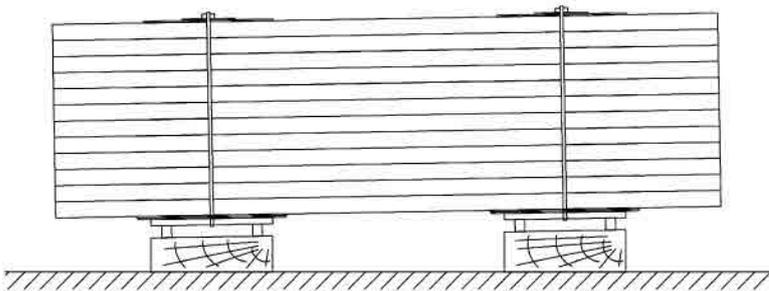

Fig. 4. Panels storage with difference of levels along side edge.
- Store the Ruukki sandwich panels in slightly inclined position, on one side edge, to ensure free drainage of rainwater which might otherwise penetrate into the package – fig. 4.